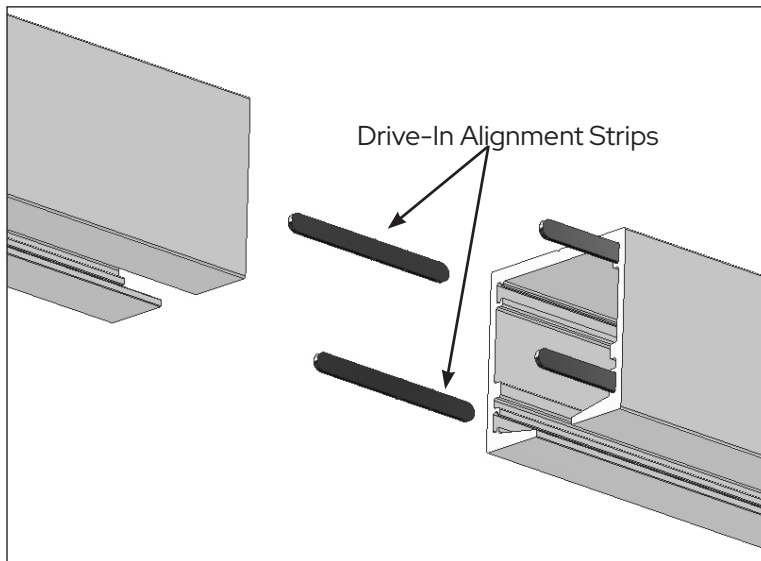

Figure 7
3. Install four Drive-In Alignment Strips at all Track joints, except at the Roller Access Splice. Each Drive-In Alignment Strip installs barbed-end first, align with the receiving socket in the Track extrusion, and then drive-in with a smooth faced hammer. One half of each Alignment Strip's length should remain exposed, ready to engage the next Track section (Fig. 7).